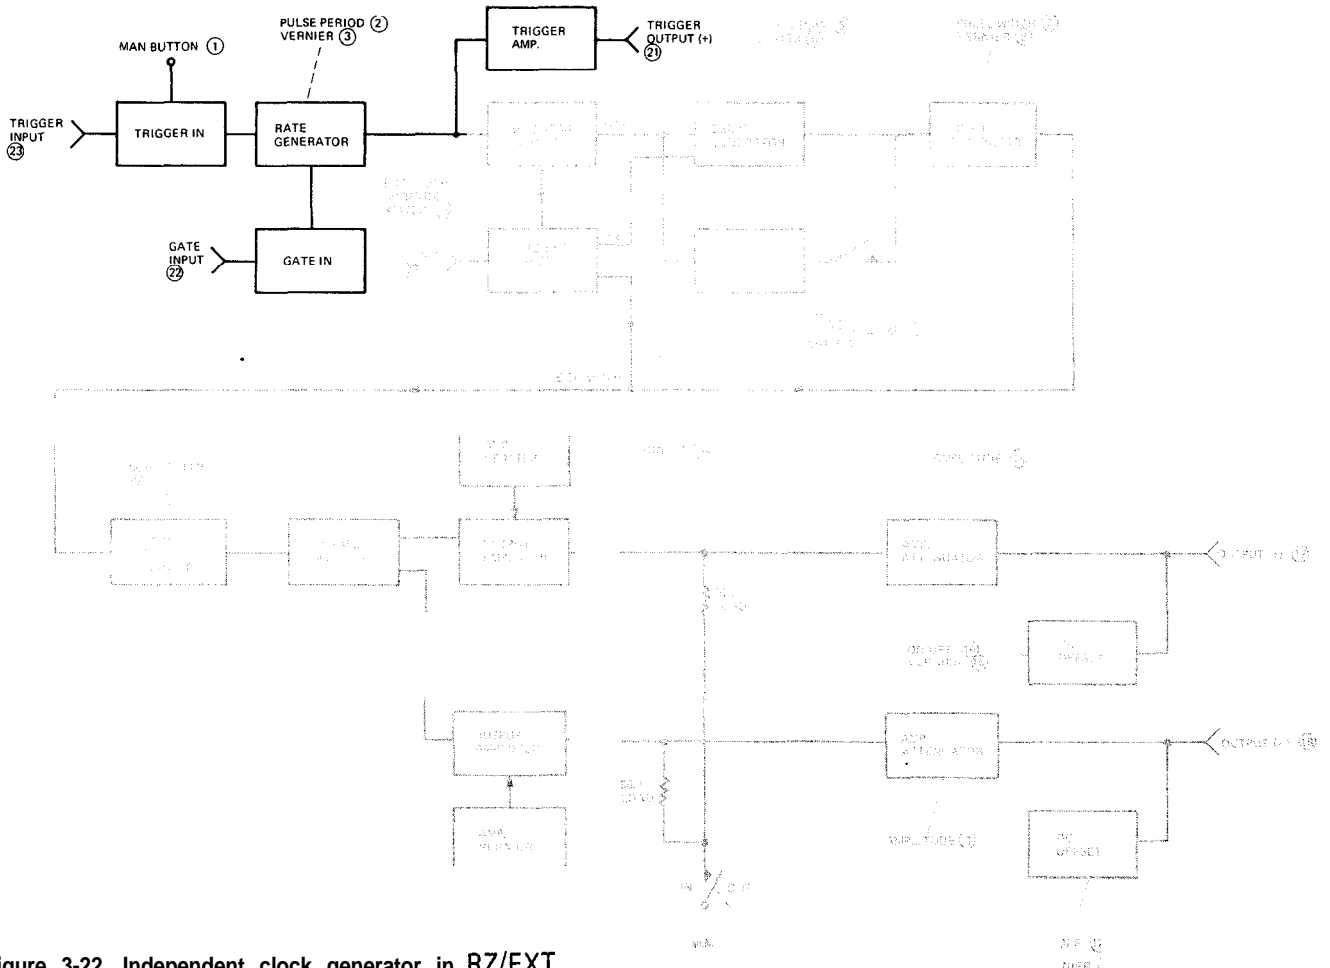

Figure 3-22. Independent clock generator in RZ/EXT WIDTH modes -- block diagram
can be triggered internally, externally or manually and can also be gated as in the normal operating mode. If this facility is not required, it can be switched off by setting the PULSE PERIOD control (2) to EXT and disconnecting the TRIGGER INPUT (23). The circuits and controls involved in this facility are shown in Figure 3-22.